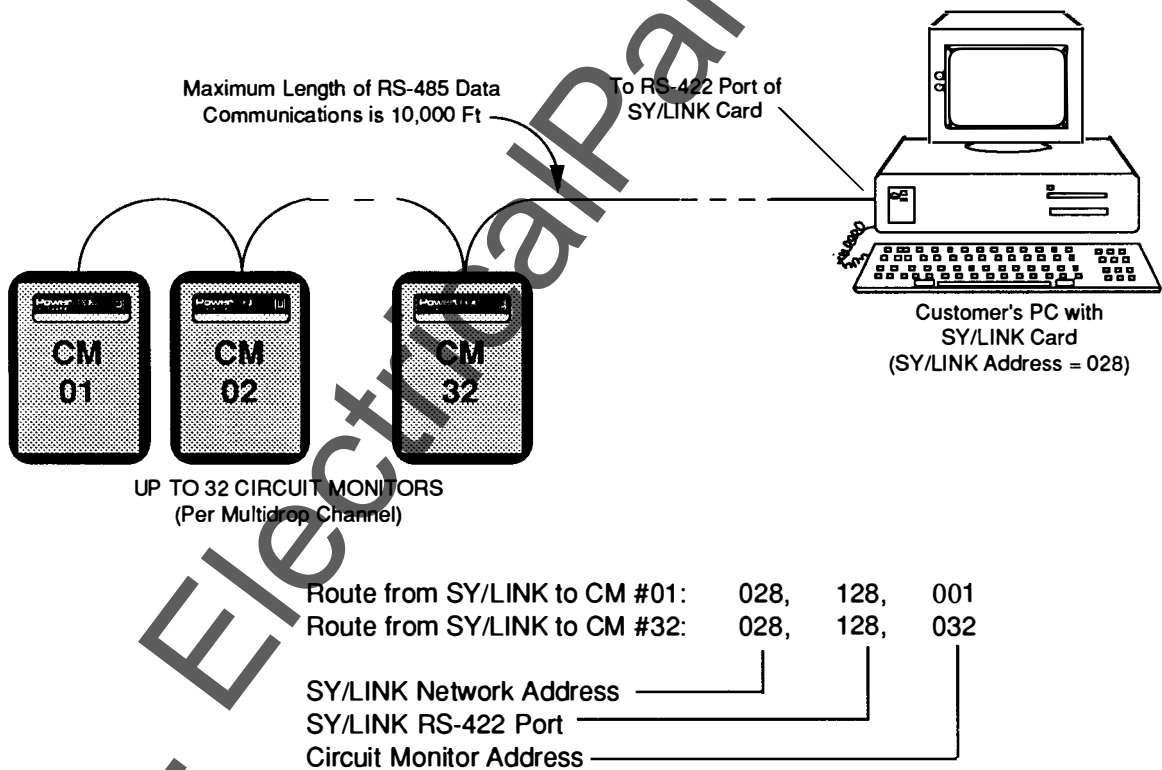

Figure 8-3 - System 2 Routing Example.
In System 2 a personal computer is used for remote communications to Circuit Monitors. (See Figure 8-3). The personal computer (PC) must contain a SY/LINK® Network Interface Card and supporting software to enable remote monitoring of the CM's. Unlike the System Display, the SY/LINK card is assigned a device address (from 00 to 99) which must always be the first route in the route statement, preceded by a 0. For example, if the SY/LINK card has been assigned the address 28, the first route in the route statement should be 028.
The SY/LINK card has two (2) nine-pin communication ports. (See Figure 8-2). The top port (female connector) is an RS-422 port (called port 1) and the bottom port (male connector) is a network port for connection to the SY/NET® network. In the system shown in Figure 8-3, the CMs are attached to the RS-422 port (port 1) of the SY/LINK card.
the RS-422 port is accomplished through the addition of a route in the second position of the route statement. This route consists of the SY/LINK card's address preceded by a '1'. The '1' informs the SY/LINK card to direct communications out the RS-422 port (port 1). Figure 8-3 shows sample route statements from the RS-422 port of a SY/LINK card to Circuit Monitors.